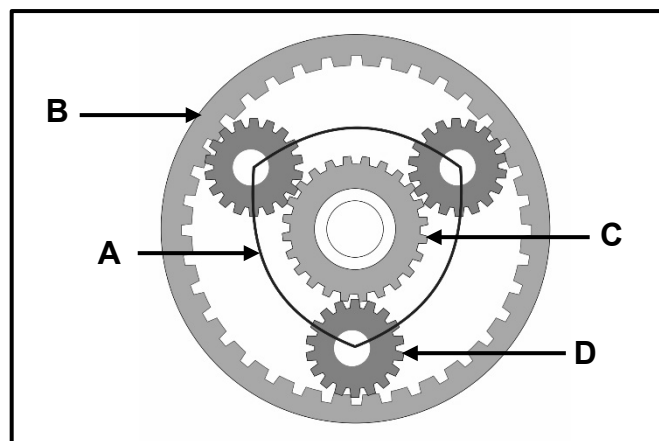

FIGURE 9.2
9.2 FIGURE 9.2 below shows a single epicyclic gear train. Answer the questions that follow.